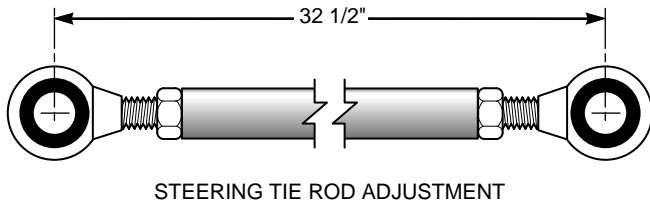

Figure 3
16. On the steering tie rod, adjust the ball joints on the tie rod so that you will get 32-1/2" distance between the center to center holes on the ball joints. (See figure 3)
20. Mount the seat spring and reinforcement seat spring above the sulky frame and mount the lower support plate below the sulky frame. Secure using the (2) two 7/16-14 x 4" bolts, (2) two 7/16" flat washer and (2) two 7/16-14 elastic stop nuts.
21. Mount the seat onto the seat plate. Place the (4) four 3/8" flat washers between the seat and plate. Secure using (4) four 5/16-18 x 3/4" bolts and (4) four 5/16" lock washers.
22. Mount the seat and seat plate to the seat spring using (2) two 3/8-16 x 1" bolts and (2) two 3/8" lock washers.